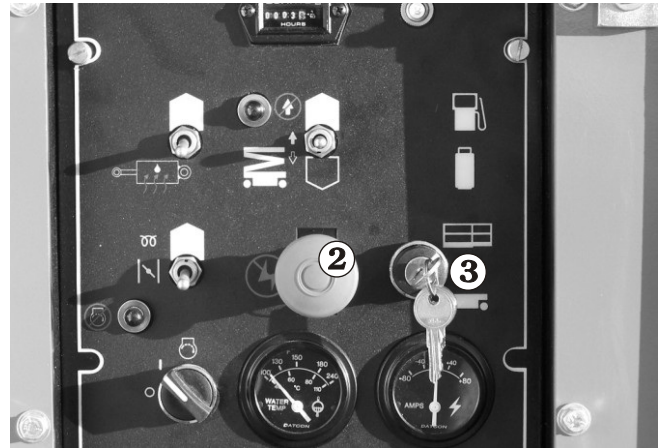

Figure 8.11
2. Set the **Emergency Stop** switch **2** to on (up) (see Figure 8.11).
3. Set the **Ground/Platform Selector** switch **3** to platform (up) (see Figure 8.11).